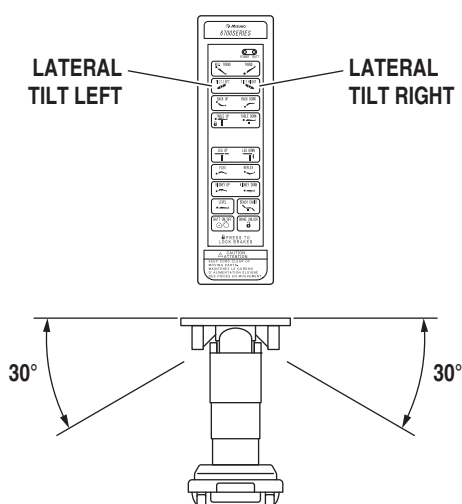

Figure 2-8. Lateral Tilt Positioning
**c. Lateral Tilt** To achieve lateral tilt right (as viewed from the head end of the table), press the TILT RIGHT button (figure 2-8). To achieve lateral tilt left, press the TILT LEFT button. Tilt of up to 30° may be obtained if Trendelenburg positioning is less than 20°.